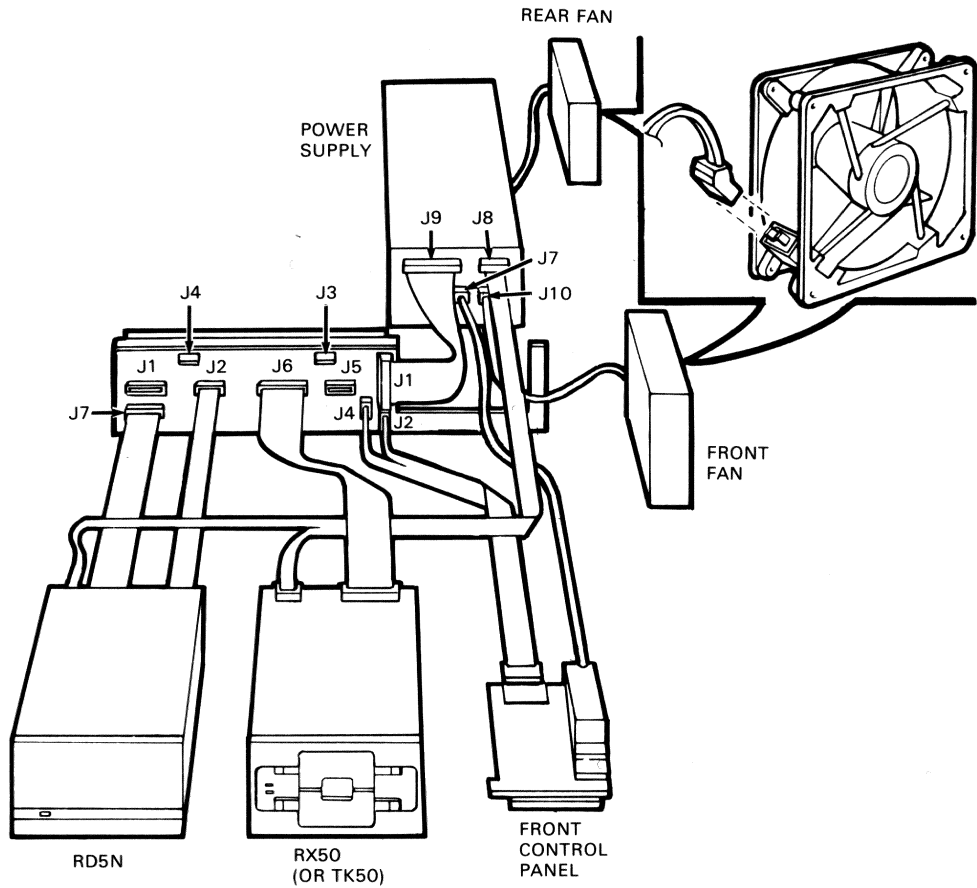

Figure 1-9 Internal Cabling
1.3.4.1 Mass Storage Signal Distribution Panel – RX50 diskette and RD5n fixed disk drives installed in the BA23 enclosure connect to the mass storage signal distribution panel. Figure 1-9 shows the internal cabling for the BA23 enclosure.